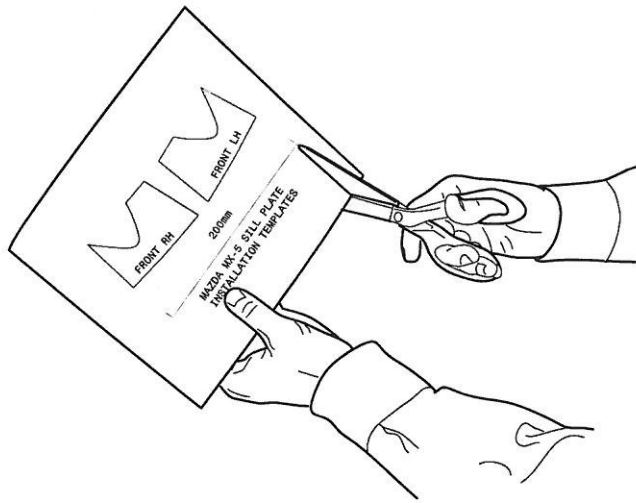

Figure 1
A. Use scissors to cut out templates (Figure 1).